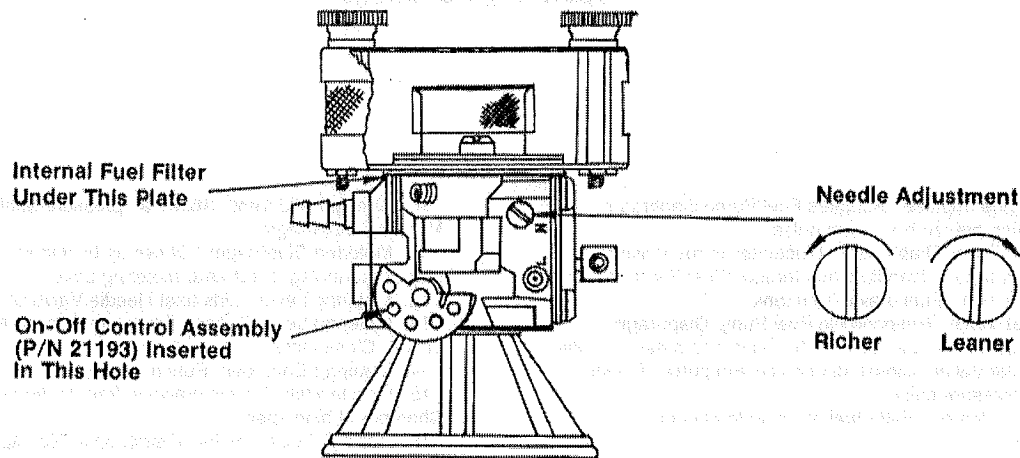

FIGURE 6
1. If the On-Off Control linkage does not rotate the linkage stop from full open to full closed (see Fig. 6) then the linkage should be adjusted.